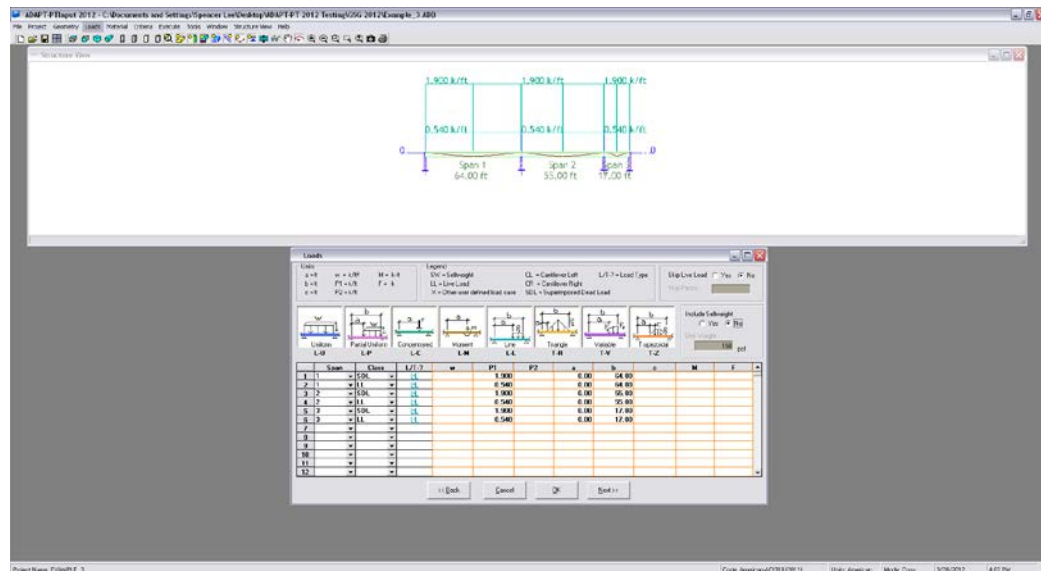

FIGURE 4.2-8
4.2.3.1 Edit the loading information (Fig. 4.2-8)
If you entered *Span* as **all** and selected uniform load, click **Back** and go back to the loading screen. You can see that all the loads are copied to the individual spans as in **Figure 4.2-8**.